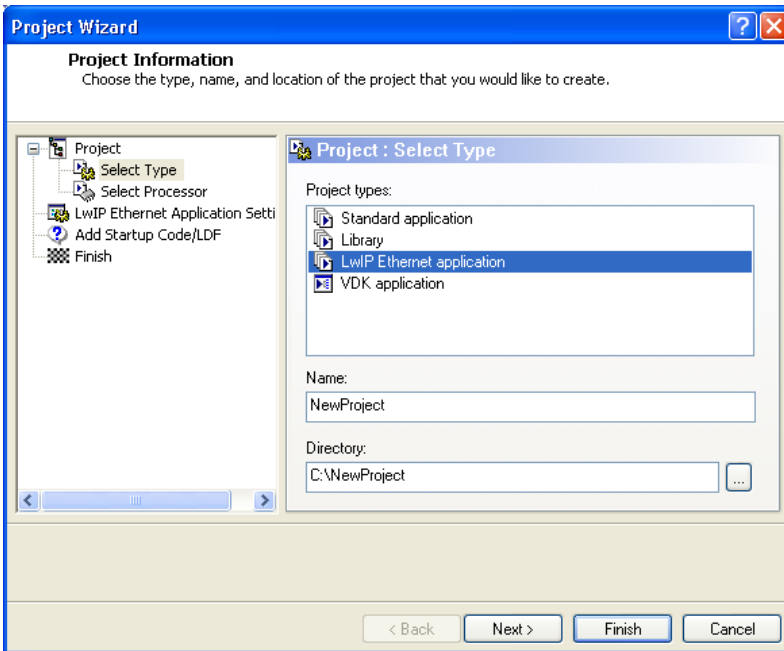

Figure 2-1. VDK Project with LwIP TCP/IP Stack
1. Select **File→New→Project** to start the **Project Wizard**. On the **Project: Select Type** page, select **CP/IP Stack application using LwIP and VDK** as the project type and choose the name and directory for the project (Figure 2-1). Click **Next**.